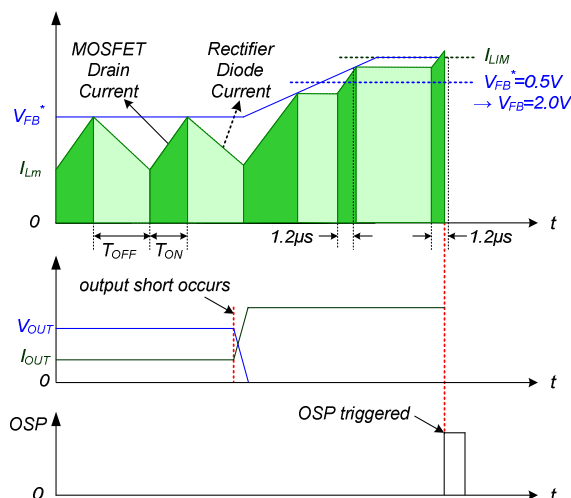

Figure 22. Output-Short Protection
4.3. Output-Short Protection (OSP): If the output is shorted, steep current with extremely high di/dt can flow through the SenseFET during the minimum turn-on time. Such a steep current brings high-voltage stress on the drain of the SenseFET when turned off. To protect the device from this abnormal condition, OSP is included. It is comprised of detecting V_{FB} and SenseFET turn-on time. When the V_{FB} is higher than 2V and the SenseFET turn-on time is lower than 1.2 μ s, the FSGM0765R recognizes this condition as an abnormal error and shuts down PWM switching until V_{CC} reaches V_{START} again. An abnormal condition output short is shown in Figure 22.